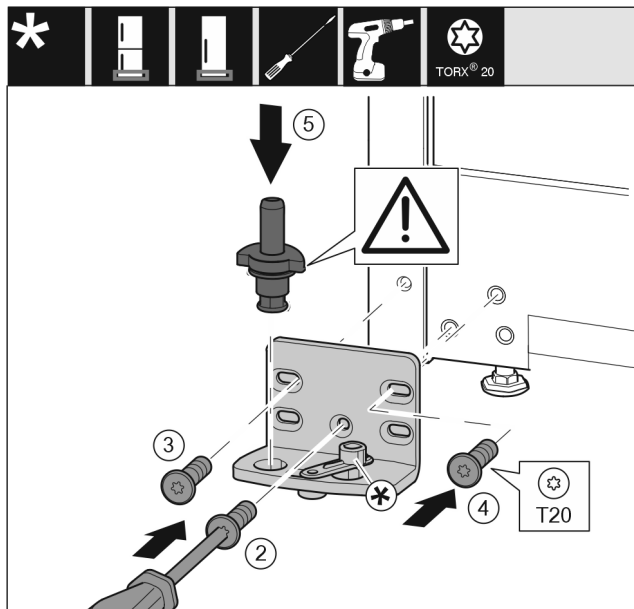

Fig. 22 *
- Place the swap bearing block on the other side and use a screwdriver to screw it on. Start with the screw Fig. 22 (2) at the bottom in the middle.*
- Tighten screw Fig. 22 (3) and screw Fig. 22 (4)*.
- Insert the bearing bolt Fig. 22 (5) completely. Ensure that the latching cam is pointing towards the rear.*
- Place the swap bearing block on the other side and use a screwdriver to screw it on. Start with the screw (2) at the bottom in the middle.*
- Tighten screw (3) and screw (4)*.
- Insert the bearing bolt (5) completely. Ensure that the latching cam is pointing towards the rear.*